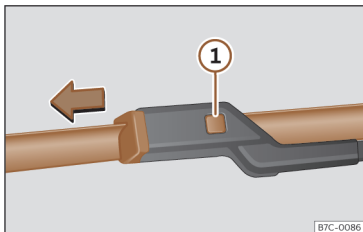

Fig. 183 Changing the windscreen wiper blades
- Press and hold release button >>> **Fig. 183** ⓘ and pull gently on the wiper blade in the direction of the arrow.